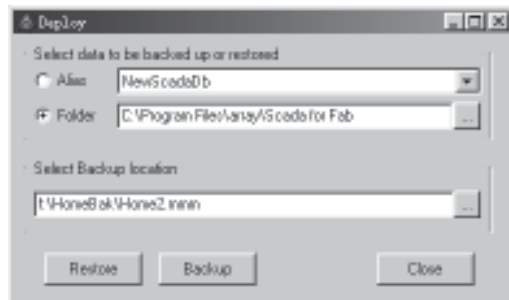

**Fig. 6-3 Print Setting Dialogue Block**
1. Select and click the options **System Print**, then a dialogue block required to carry out the print setup operation will be displayed in the interface as in Fig. 6-3.